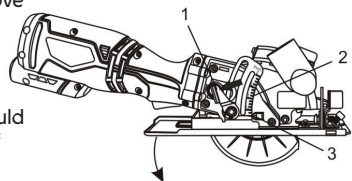

Fig. 2
1. Rotate the cutting depth locking lever (1) counterclockwise (Fig. 2).
**NOTE:** Align the desired depth on the depth control scale (2) with the alignment mark (3) on the saw housing.